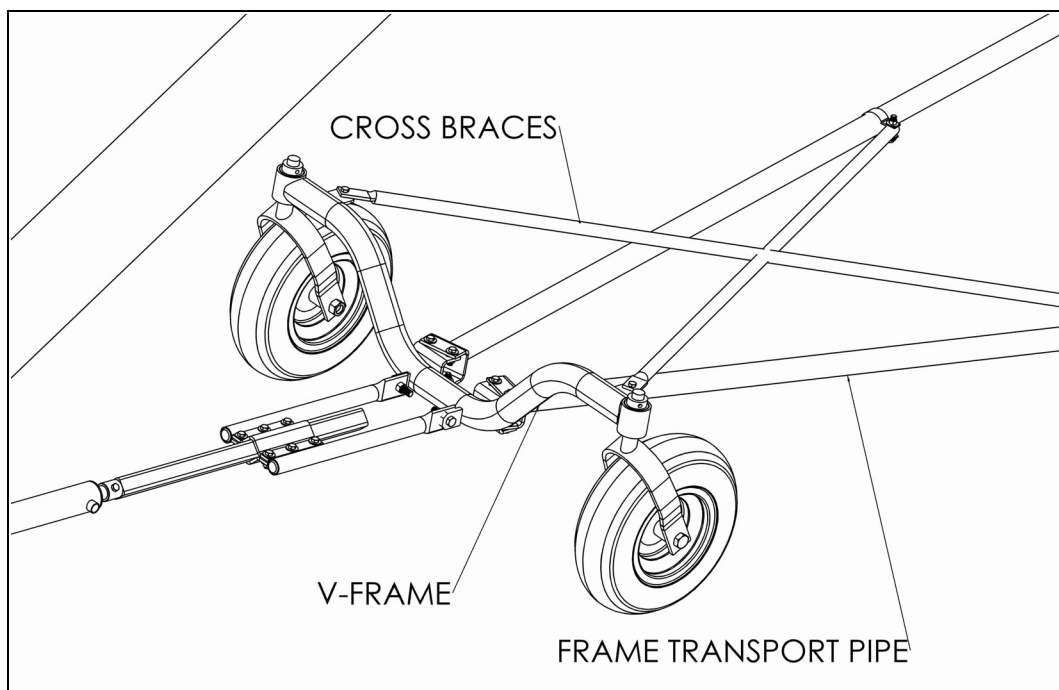

**Figure 3.8 Transport Pipe Axle Mount Location**
2. Attach the transport pipe axle mount onto the frame using  $3/8"$  x  $2"$  u-bolts and locknuts as shown in Figure 3.8 and 3.9. Space the mount  $2"$  from the end of the crossmember. Tighten the nuts and ensure that the mount is level with the ground.